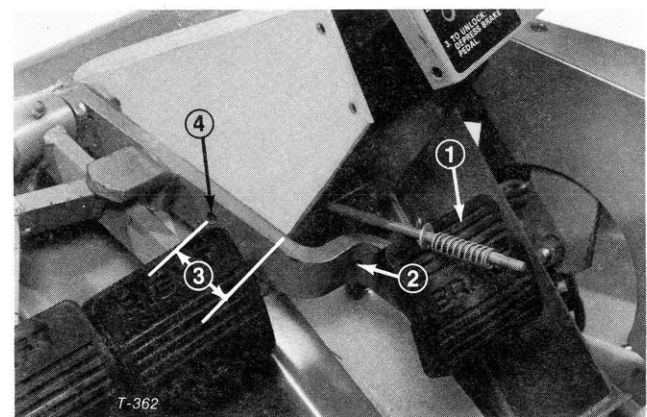

Figure 4
2. Center punch proper location for hole in bend of brake pedal arm and drill 7/32 in. (5.56 mm) hole in pedal arm (Fig. 4).